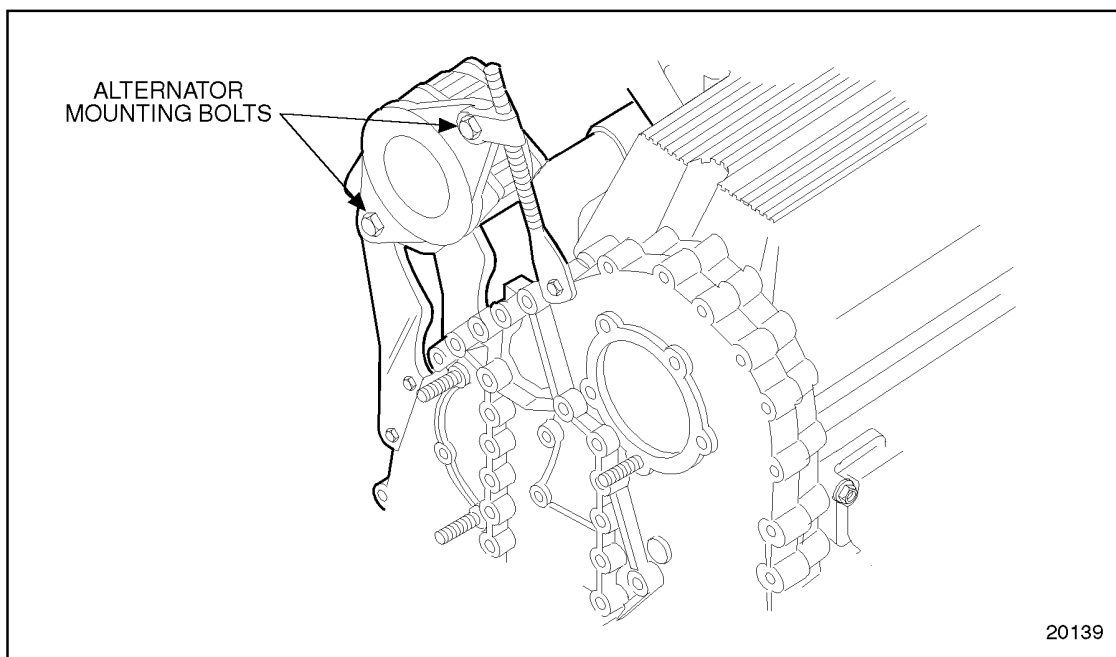

Figure 1-386 Alternator Mounting Bolts
1. Loosen the alternator mounting bolts and the adjusting rod nuts to get slack in the alternator drive belts. Remove the alternator drive belts. See Figure 1-386.